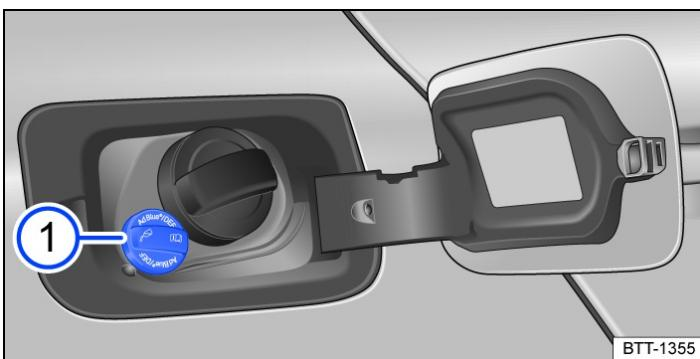
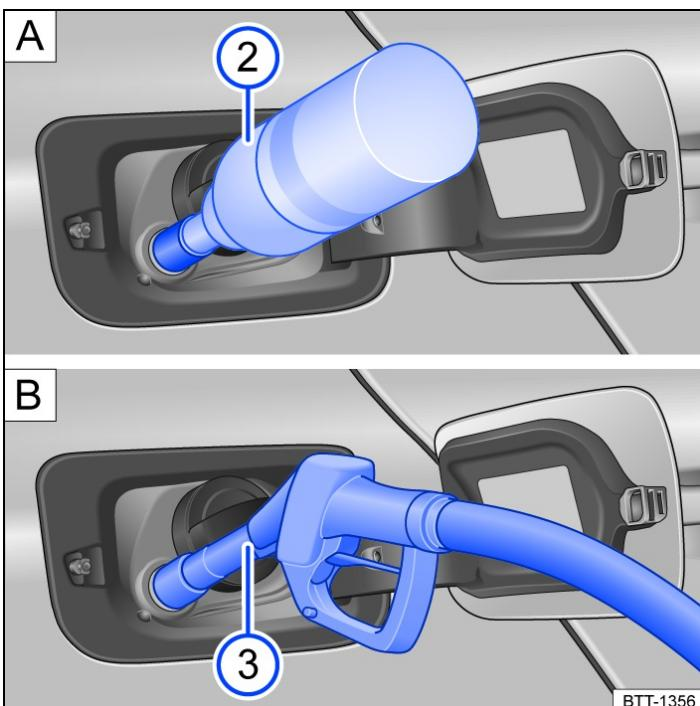

Fig. 1 Behind the tank flap: tank cap for AdBlue (illustration).
Fig. 2 Behind the tank flap: refilling AdBlue with the **A** refill bottle or **B** nozzle (illustration).
Key to → *Fig. 1* , *Fig. 2*:
The AdBlue® filler neck is located behind the tank flap next to the tank filler neck for fuel → *Fig. 1*.
- Hold the AdBlue®® filler nozzle so that the handle is facing down in order to ensure optimum filling → *Fig. 2* ② B.
- The AdBlue® tank is full when the filler nozzle clicks off for the first time → ①.